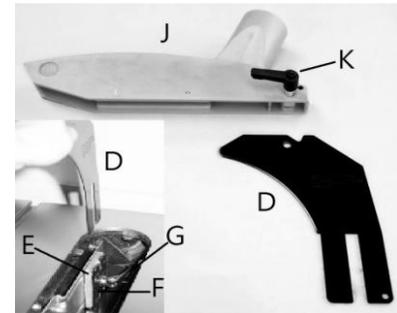

Figure 12
Refer to Figure 12
3. Pull quick-release lever (G, Figure 12) to open position. The clamp plate (F) is spring loaded and will move away from the bracket (E), leaving a gap.
4. Slide prongs of riving knife (D) into slot between bracket (E, Figure 12) and clamp plate (F), and push riving knife down as far as it will go.
5. Push lever (G) to closed position.
Refer to Figure 12.
2. Position anti-kickback pawl assembly (H) as shown in Figure 12; the angled side of pawl block faces toward front of saw.
3. Lower pawl assembly onto center notch of riving knife, with pawls straddling knife. Push and hold button on pawl block (on opposite side of that shown in Figure 12), and push pawl block down until it securely engages in notch.
The bracket and clamp plate (E/F, Figure 12) are adjusted at the factory and no further adjustment of the blade guard and riving knife assembly should be necessary. However, **proper alignment is very important.** Before operating table saw, read *section 9.6 ,Riving knife alignment,* to verify and follow adjustment procedure if necessary.